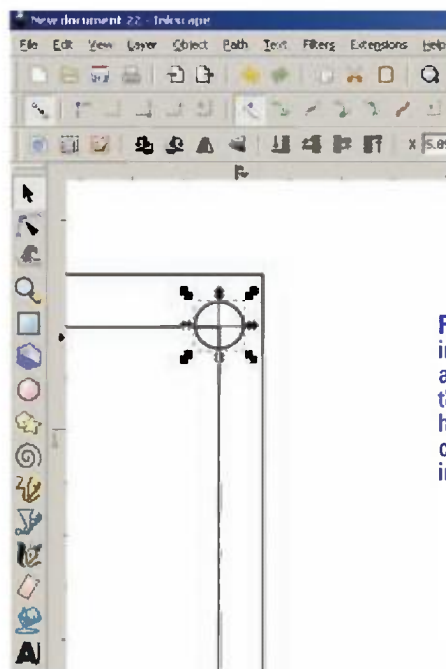

Figure 7. Zoom in closer to accurately place the mounting holes in the corners of the inner rectangle.
9. Make three additional copies of the circle with cross-hairs, and manually position all four into the corners of the inner rectangle from step 1. The cross-hairs will help you find the center of the hole when drilling. You'll want to zoom in real close (see **Figure 7**) so that you can accurately position the cross-hairs for the mounting holes.